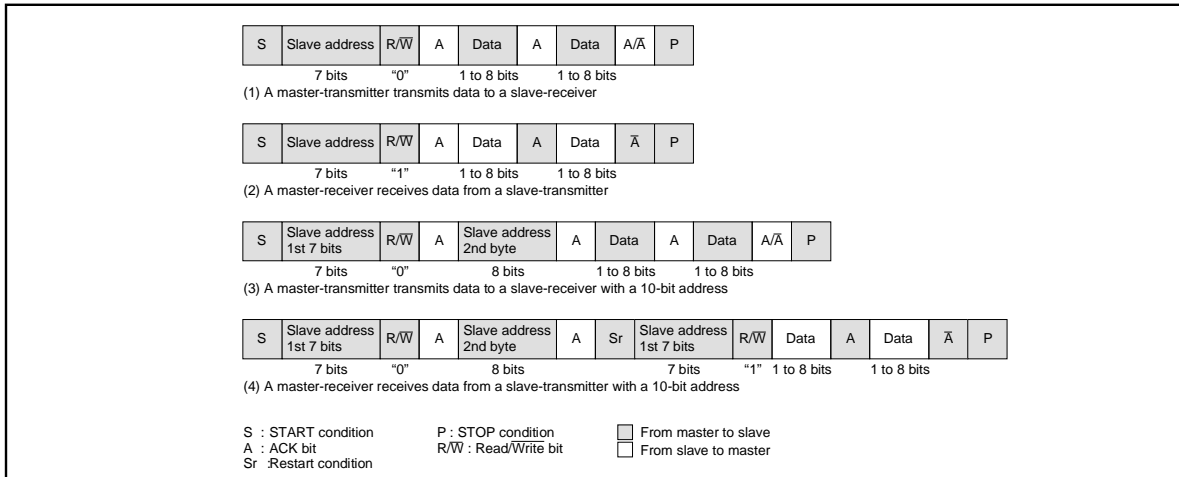

Fig. 2.11.45 Address data communication format
To meet the 7-bit addressing format, set the 10BIT SAD bit of the I²Ci control register to "0." The first 7-bit address data transmitted from the master is compared with the high-order 7-bit slave address stored in the I²Ci address register. At the time of this comparison, address comparison of the RBW bit of the I²Ci address register is not made. For the data transmission format when the 7-bit addressing format is selected, refer to Figure 2.11.45, (1) and (2).
When the first-byte address data matches the slave address, the AAS bit of the I²Ci status register is set to "1." After the second-byte address data is stored into the I²Ci data shift register, make an address comparison between the second-byte data and the slave address by software. When the address data of the 2nd bytes matches the slave address, set the RBW bit of the I²Ci address register to "1" by software. This processing can match the 7-bit slave address and R/W data, which are received after a RESTART condition is detected, with the value of the I²Ci address register. For the data transmission format when the 10-bit addressing format is selected, refer to Figure 2.11.45, (3) and (4).
(11) Example of Master Transmission